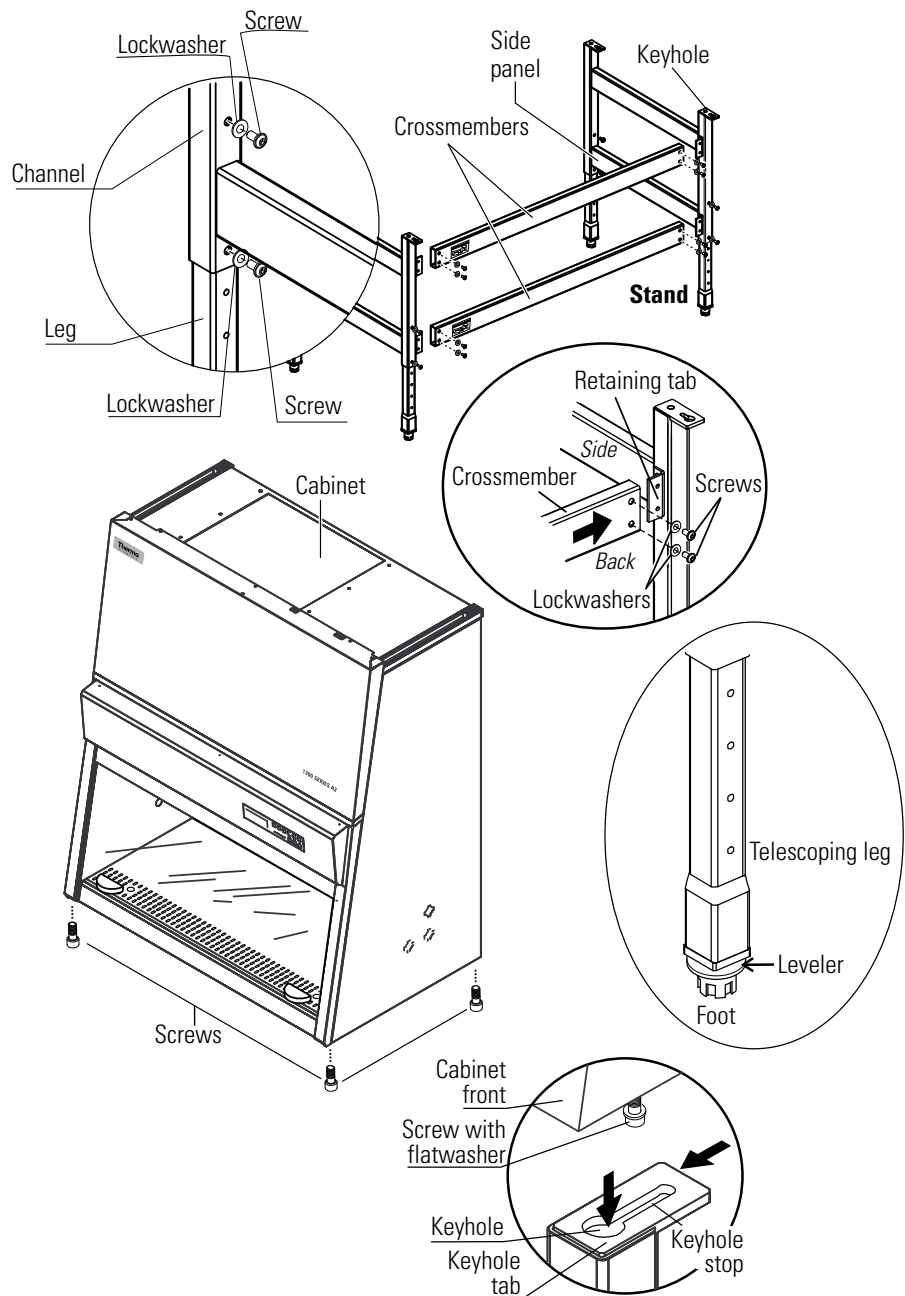

Figure 3-1. Stand Assembly
For a unit without a stand, place the cabinet onto a stable structure capable of supporting two times the unit weight. Make sure the weight is not resting on the drain pan. Then remove the protective covering from the drain pan. See Figure 3-1 on the following page.
2. Locate the left and right side panels. Install the telescoping leg assemblies into the side panels as shown in Figure 3-1.
4. Locate the two cross members from the packaging. Note they are packaged separately from the side panels. With the label on the crossmember to outside (Figure 3-1), onto the retaining tabs of the side panels. Using screws provided, install all screws by hand, before tightening to secure in place, then secure with the screws provided.
7. Slide the cabinet frame to the keyhole stop (Fig. 3-1).